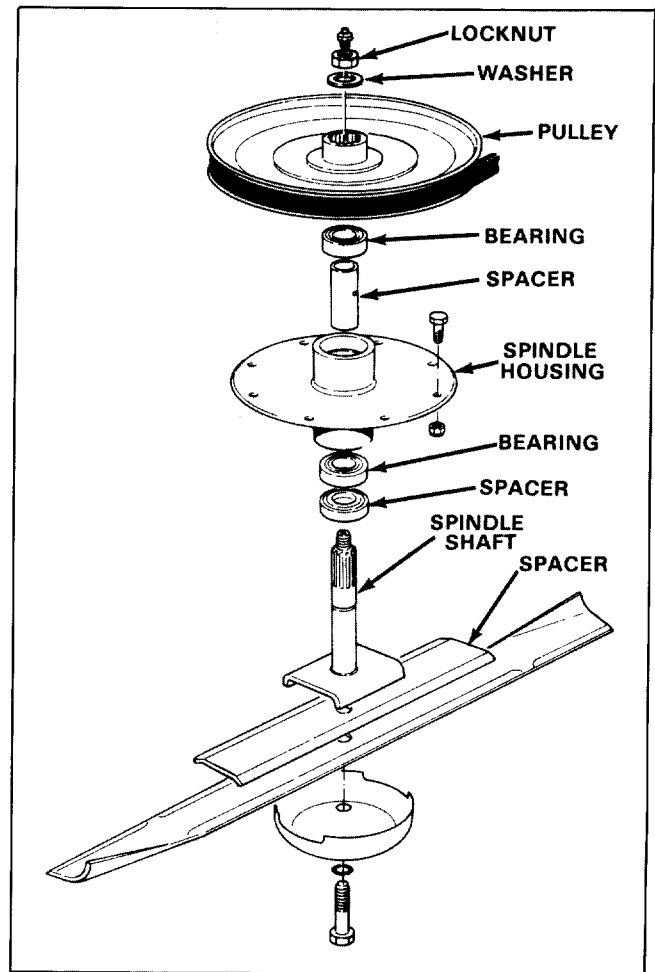

Figure 16
1. Grasp end of blade using a rag or thickly padded glove. Remove bladebolt, lockwasher, anti-scalp cup, blade and spacer from spindle shaft (Fig. 16).
4. If spindle shaft will be replaced, remove bladebolt, lockwasher, anti-scalp cup, blade and spacer from spindle shaft (Fig. 16). Otherwise, the blade and its other associated parts may be left on the spindle shaft.
5. Press bearing (Fig. 16) out of one end of spindle housing, remove spacer, then remove bearing from other end of spindle housing.